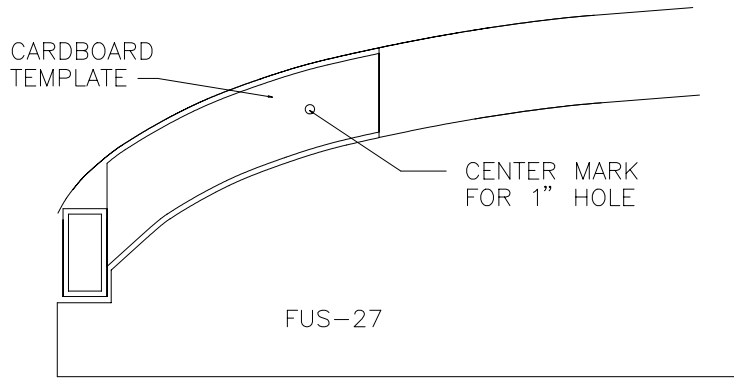

Figure 15.13.12
- 37) Using the cardboard template you made earlier, mark the FUS-27 Root Ribs for Torque Tube exit holes. Cut a 1" hole at these locations. Figure 15.13.12